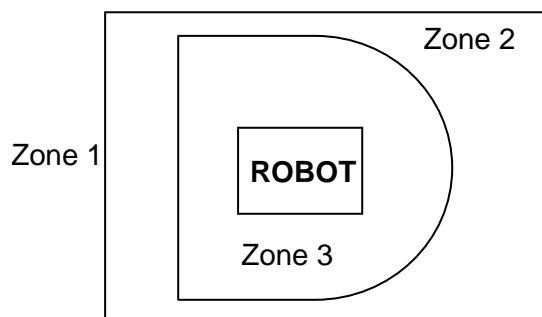

Figure 1: Safety zones
- (a) Discuss **three (3)** Robot Application considerations. (6 marks)
- (b) A strategy for limiting access to the areas is illustrated in **Figure 1**. The work cell is divided into zones 1 to 3. Define these **three (3)** zones. (6 marks)